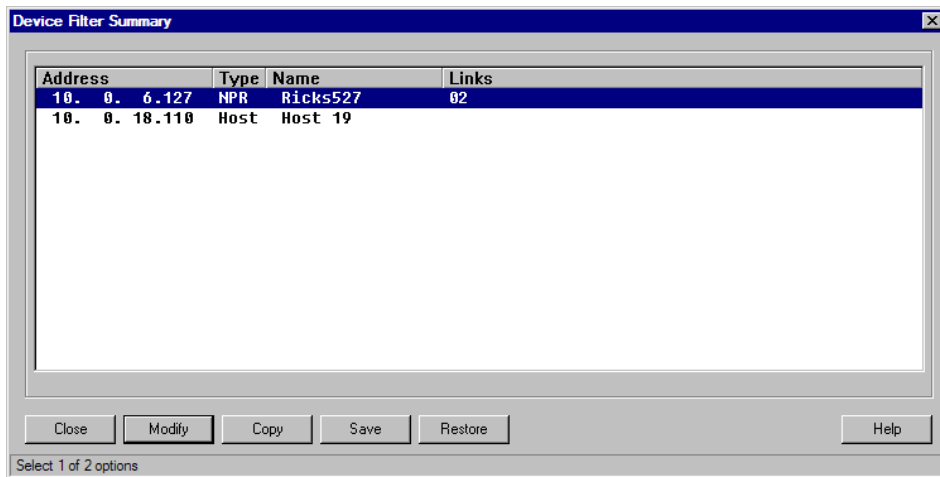

Figure 3-28. Device Filter Summary
1. From the Advanced WAN Configuration editor described above, select **IP Filters** to display the Device Filter Summary (Figure 3-28). This summary lists each TAC I/NET host that is currently communicating with this host workstation.